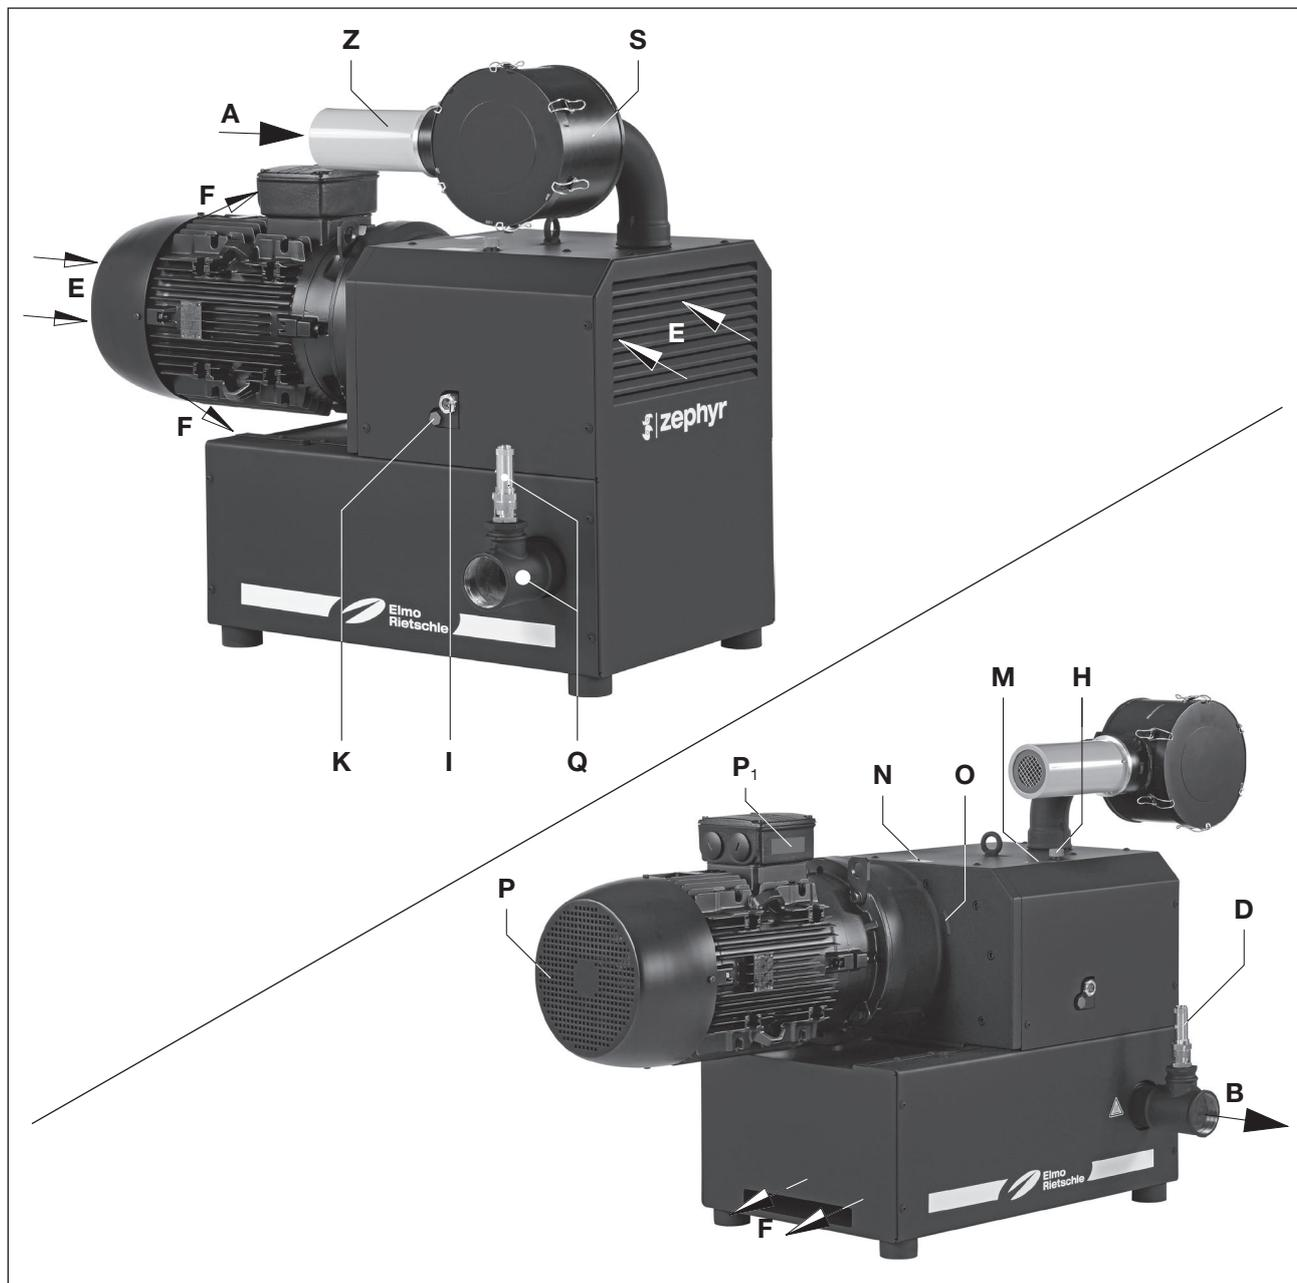

Fig. 2 Compressor C-DLR 401 and C-DLR 501
The C-DLR 401 and C-DLR 501 are encapsulated by an insulating hood. In order to dissipate compression heat, the cooling air is sucked through between the machine and the hood using drum fan that sucks in the fresh cooling air (Fig. 2/E) and discharges the heated air out of the cooling air outlet (Fig. 2/F).
To protect against overload a safety valve (Fig. 2/D) is fitted as standard.
This contact free running claw compressors C-DLR are suitable for creating excess pressure between 0 and the maximum limit (in bars) given on the data plate Fig. 2/N). Constant operation is permissible.
The oil filling point (Fig. 2/H), oil sight glass (Fig. 2/I) and the oil outlets (Fig. 2/K) must be easily accessible. The cooling air inlets (Fig. 2/E) and the cooling air outlets (Fig. 2/F) must be at least 30 cm away from adjacent walls. Cooling air coming out must not be sucked in again. For maintenance work there must be a minimum of 40 cm in front of the inlet filter (Fig. 2/S) and the inlet silencer (Fig. 2/Z).
- a) Pressure connection at (Fig. 2/B).
As a protection against overload a safety valve (Fig. 2/D) is installed as standard.
- a) Fill the lubricating oil (for suitable types see "Maintenance") for the gear wheels and oil filling point (Fig. 2/H) up to the middle of the sight glasses (Fig. 2/I).
- a) The motor's electrical data is given on the data plate (Fig. 2/N) or on the motor data plate (Fig. 2/P₁). The motors comply with DIN EN 60034 and are in protection class IP 55 and insulation class F. The appropriate connection diagram is located in the motor's terminal box (not for the plug connection version). The motor data must be compared with the data of the existing mains network (current type, voltage, network frequency, permitted current value).
When the machine is at operating temperature the surface temperatures on the components (Fig. 2/Q) may go above 70 °C. You must avoid touching the hot surfaces (marked with warning plates).